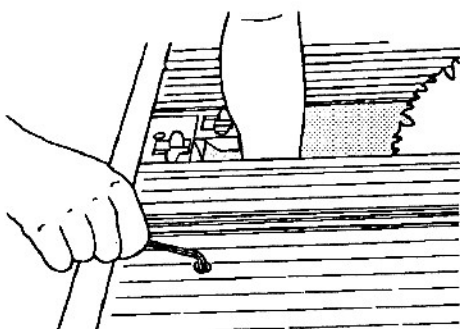

Fig. B-39
38. Reach underneath the 45° adjusting setscrew and loosen the setscrew jam nut with a 9/16" wrench, as demonstrated in Fig. B-39. Adjust the setscrew with a 3/16" Allen wrench (provided) until it touches the carriage. Re-check the 45° stop with the precision 45° miter square and re-adjust it, if necessary. Once adjusted properly, lock the jam nut with a 9/16" wrench.